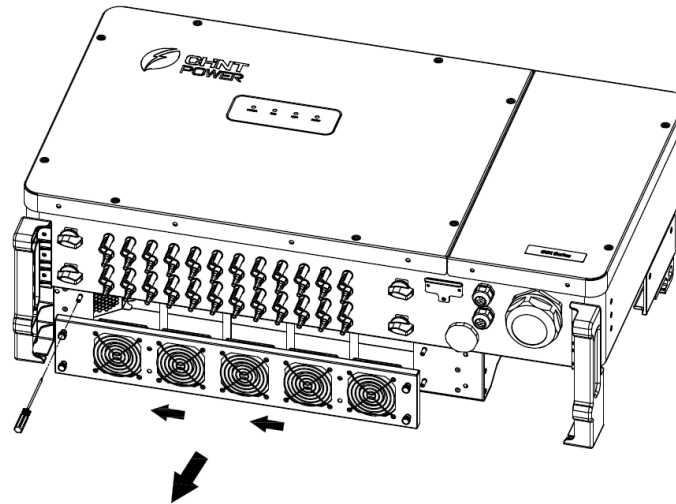

Figure 7-1 Remove the fan tray and fan
1. Use a No.2 Phillips head screwdriver to remove the 4 screws fixing the fan tray as shown in Figure 7-1.